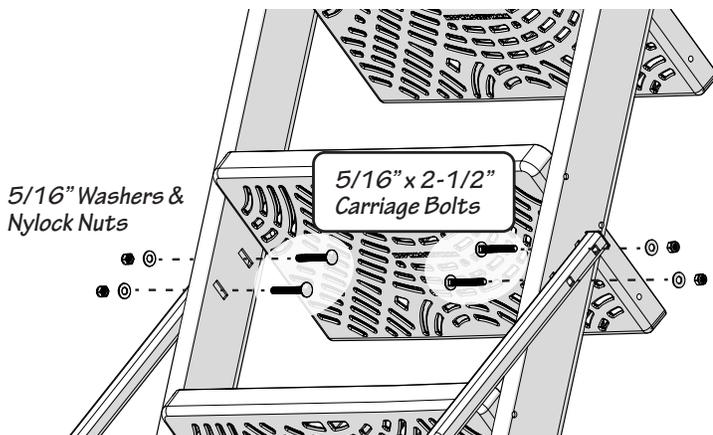

Fig. 8-3
- The second worker installs two 5/16" x 2-1/2" carriage bolts from the inside of the Nauti Steps (see Figure 8-3). Add a 5/16" washer and Nylock nut to each bolt end. Fully tighten the nuts and bolts for the lower end of the Nauti Steps hand rails.